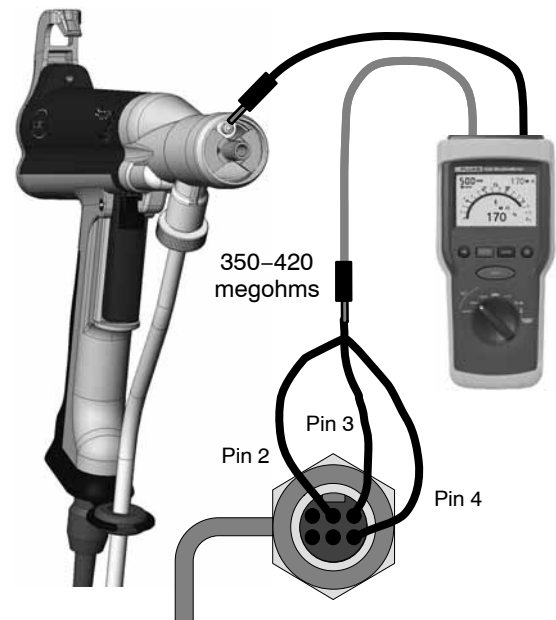

Figure 12 Cable End to Spring Plunger Test
1. See Figure 12. Remove the nozzle.